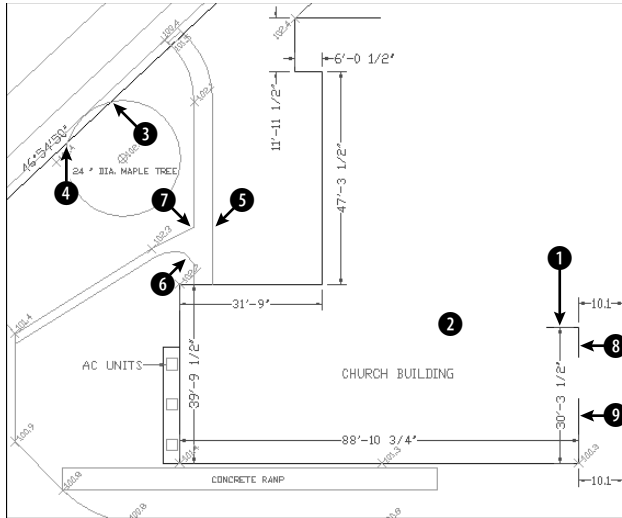

Figure 10-27: A site plan.
2. Save the file as ab10-09.dwg in your AutoCAD Bible folder. This is a site plan, as shown in Figure 10-27. Turn on OSNAP and set running object snaps for endpoint and intersection.
3.  Choose Break from the Modify toolbar. At the Select object: prompt, pick the line at ❶. At the Specify second break point or [First point]: prompt, pick ❷. This action shortens the line.
4. Repeat the BREAK command. At the Select object: prompt, pick the circle (it's a maple tree) anywhere along its circumference. At the Specify second break point or [First point]: prompt, right-click and choose First point. At the Specify first break point: prompt, pick the intersection at ❸. At the Specify second break point: prompt, pick the intersection at ❹ to break the circle.